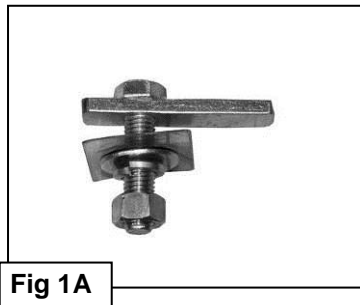
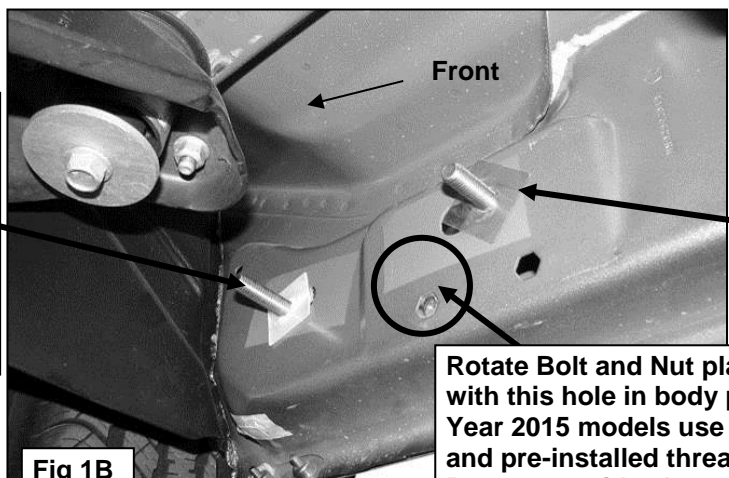

Fig 1A
Fig 1B
2. Select (1) 10mm Bolt Plate and partially thread a Plastic Retainer onto it, (**Fig 1A**). Insert the Bolt Plate into the oval hole, (**Fig 1B**). Once the Bolt Plate is inserted, hold the Bolt end with one hand and tighten the Plastic Retainer with your other hand until it is tight against the body panel. **IMPORTANT:** The Plastic Retainer is designed to prevent the Bolt Plate from falling into the body cavity and to aid in installing the Mounting Bracket.
4. Next, partially thread a Plastic Retainer onto the threaded end of a 12mm Bolt /10mm Nut Plate, (Fig 1C). Insert the Bolt and Nut Plate with Plastic Retainer into the factory oval hole, (**Figure 1B**). **FOR MID-YEAR 2015 & UP MODELS WITH PRE-INSTALLED 8mm THREADED INSERTS, SKIP THIS STEP AND PROCEED TO STEP 5.**